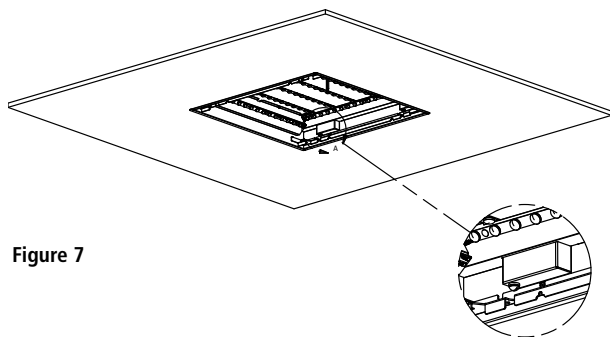
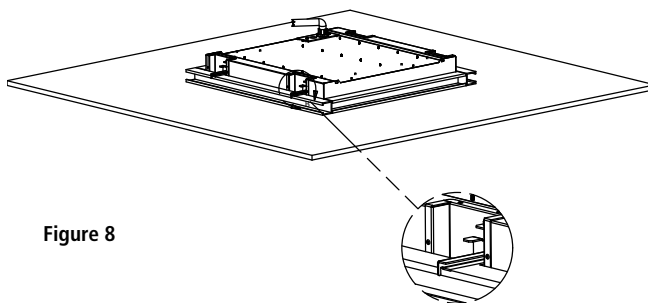

Figure 7
Figure 8
8. Deploy swing arms: Utilizing screws located near inside edges of fixture (see Figure 7) and a flathead screwdriver, rotate clockwise to deploy each swing arm and lower them into place until snug against framing member (see Figure 8). Continue tightening swing arm screws until the fixture is firmly seated in the cutout.